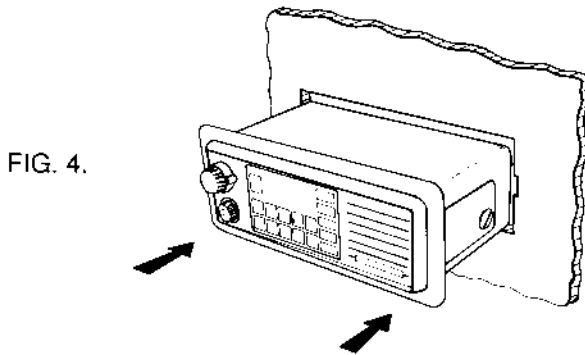

FIG. 4.
4. Slide the entire assembly, rear panel first, into the slot in the bulkhead, manoeuvring the assembly past the heads of the brass mounting screws in the sides, and push up firmly against the bulkhead. (Fig. 4)